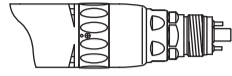

Fig. 5
- (3) When the FWD/REV change ring is positioned at the middle of “F” and “R”, the drive air is interrupted and the motor does not rotate. (Fig. 5)